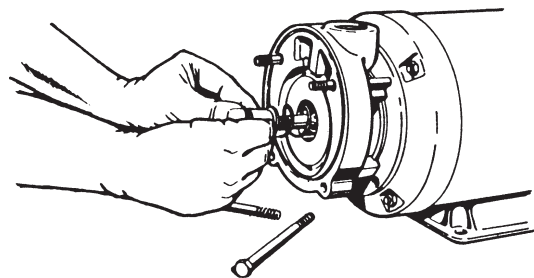

FIGURE 20
- e. Holding the head assembly between the thumb, forefinger, and index finger with the sealing face pointing toward the stationary seat, slide the assembly over the motor shaft until it rests against the seat. Refer to Figure 20. A slight twisting motion will cause the assembly to slide easier.
- h. Align the keyway slot in the hub assembly (refer to Figure 20) and the key in the motor shaft.